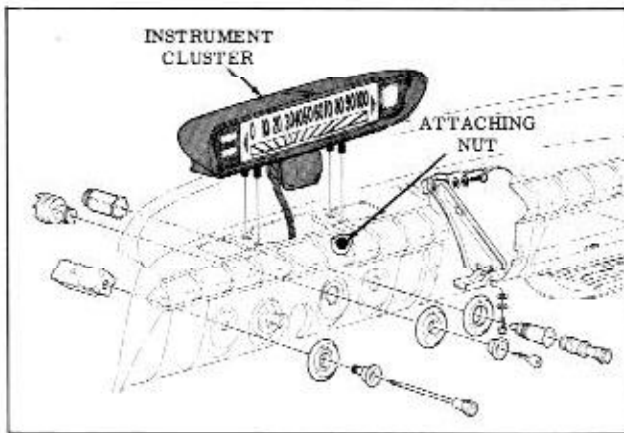

Fig. 12-3 Instrument Cluster Removal
3. Remove the four cluster to instrument panel attaching nuts and lock washers, from under instrument panel, then remove cluster from top of instrument panel. (Fig. 12-3)